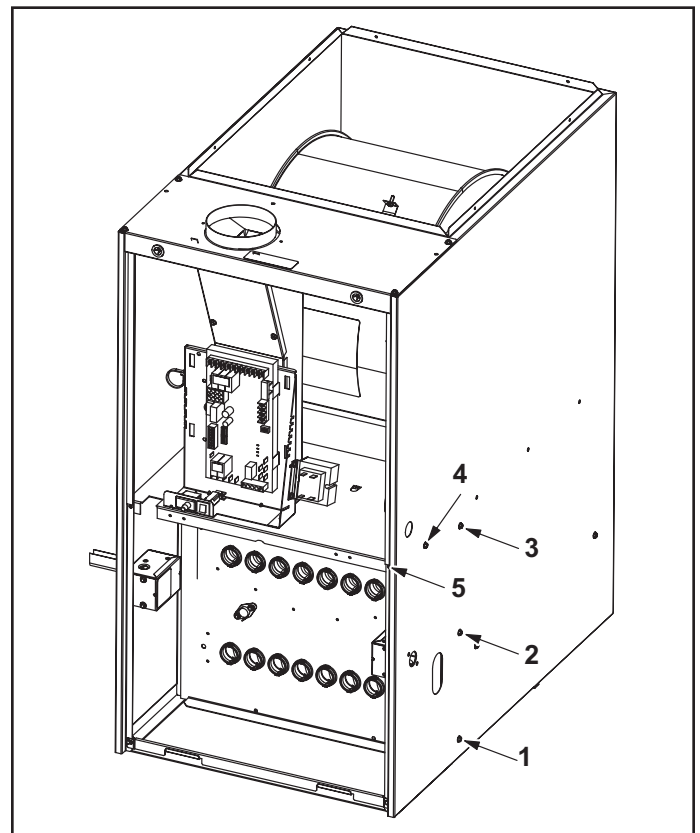

Figure 19. Remove 5 screws if necessary (either side of cabinet)
9. Remove heat exchanger. It may be necessary to spread cabinet side to allow more room. If so, remove five screws from the left side or right side of cabinet. See Figure 19.